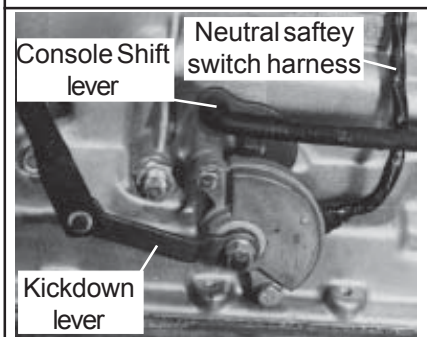

Figure 2
**TH-350:** Disconnect kickdown cable at carburetor. Remove retaining bolt from kickdown cable at transmission. Pull cable out of transmission and disconnect cable from detent wire link (see Fig. 2). Allow cable to hang free.
**Console Shift Models:** Connect rod to shift lever on transmission. (See Fig. 2) Snap rod into grommet retainers by squeezing rod and lever together with a pair of pliers. Connect rod to clip retainer levers and install clip.